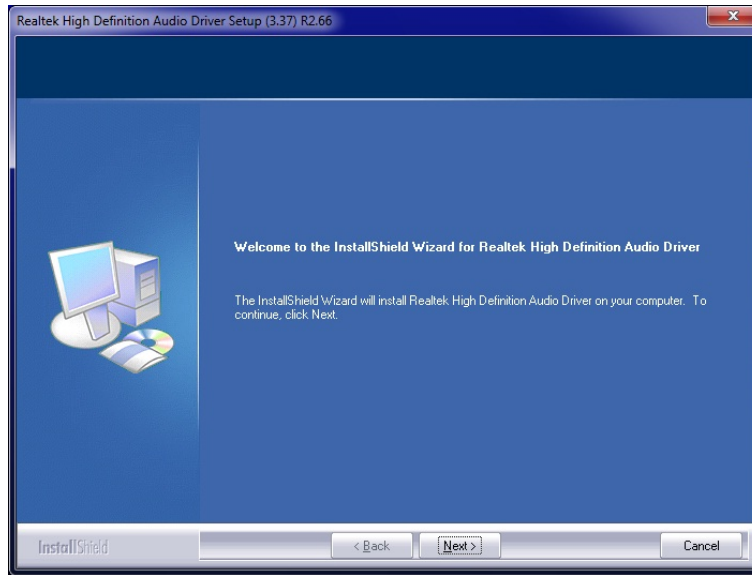

Figure 6-24: InstallShield Wizard Welcome Screen
- Step 5:** Once initialized, the **InstallShield Wizard** welcome screen appears (**Figure 6-24**).